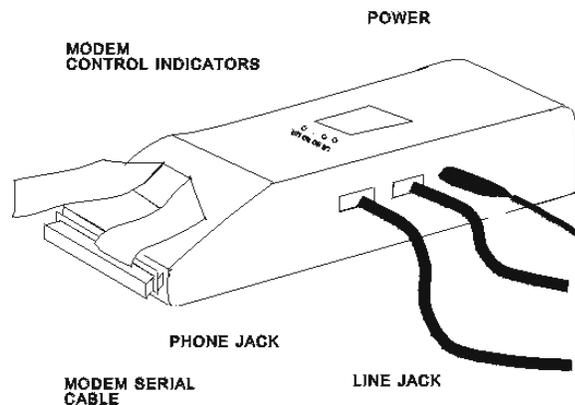

Figure 8-1: AccuVote-OS Modems
17. Connect one of the computer's serial ports or port expansion devices to the COMM. PORT jack at the back of the unit using a null modem cable. Refer to Figure 8-1.